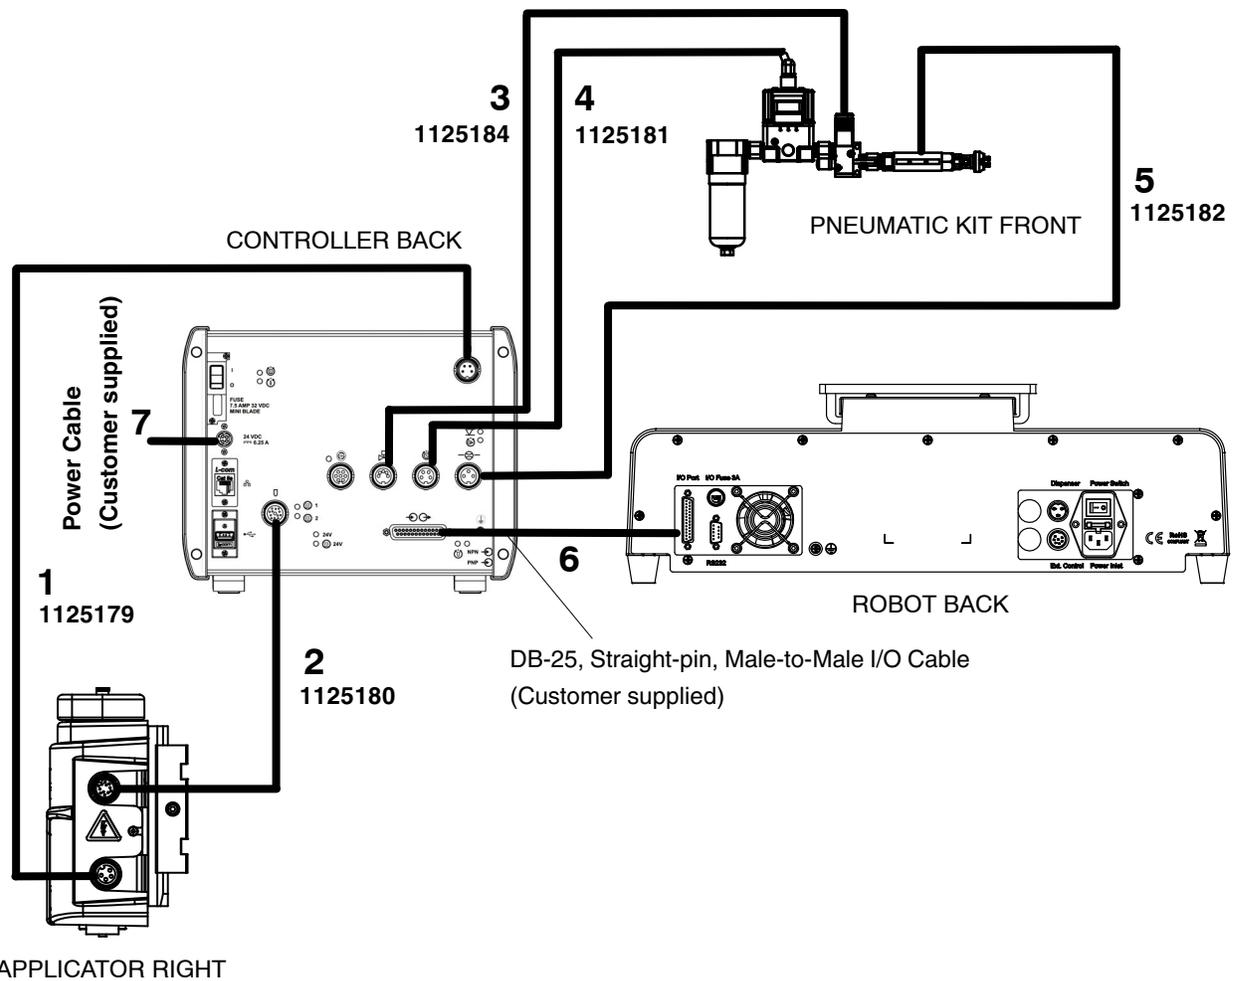

Figure 3-3 Cable connections
1. Refer to figure 3-3. Use the part numbers as a reference when connecting the seven cables.